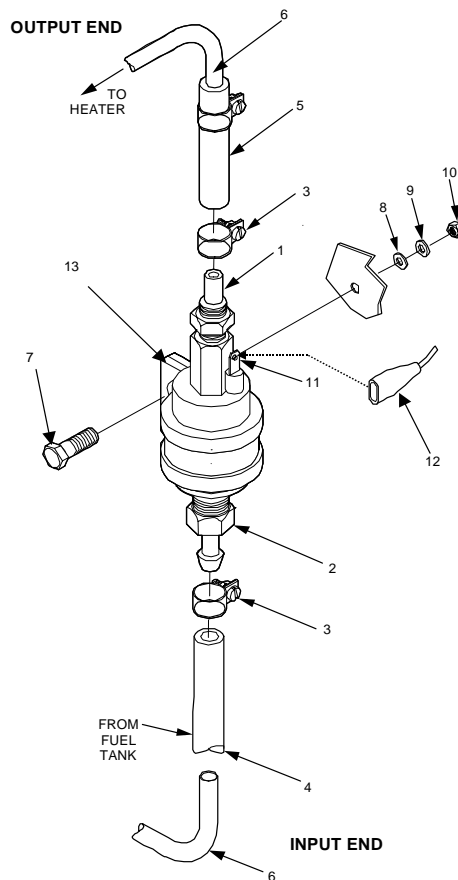

Figure 4-22. Fuel Pump Maintenance.
2. Disconnect electrical leads (12), Figure 4-22, from connector (11) on fuel pump (2).
3. Loosen screw clamps (3) to disconnect fuel line (6) and butt splice (4) from input end of fuel pump (2). Drain any fuel from line into a suitable container.
4. Loosen screw clamp (3) to disconnect butt splice (5) and fuel line (6) from output end of fuel pump (1). Drain any fuel from line into a suitable container.
5. Remove nut (10), lock washer (9), flat washer (8) from bolt (7). Then, remove bolt (7).
6. Remove fuel pump (2) from clamp (13).
1. Secure new fuel pump (2) using clamp (13). Secure clamp (13) with bolt (7), flat washer (8), lock washer (9), and nut (10).
2. Referencing top of Figure 4-22, install butt splice (5) and fuel line (6) on output end of fuel pump (1). Secure with screw clamp (3).
3. Referencing bottom of Figure 4-22, install fuel line (6) and butt splice (4) on output end of fuel pump (2). Secure with screw clamp (3).
4. Plug in electrical leads (12) at connector (11) on fuel pump (2).